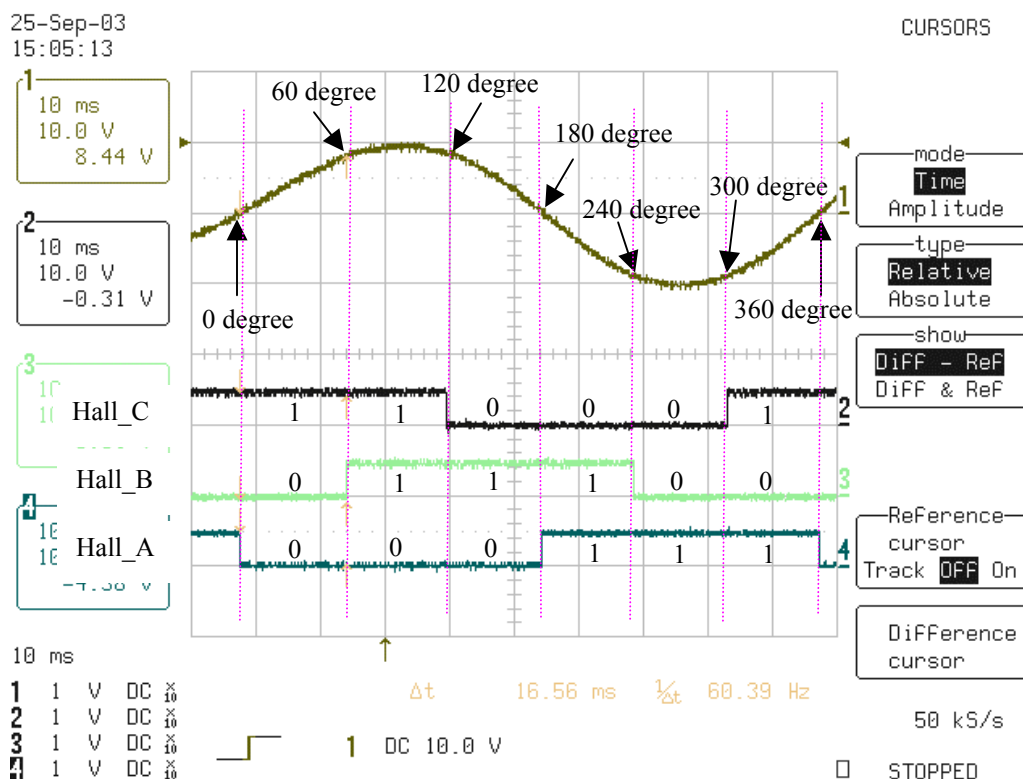

Figure 2. Sample Waveform of U-V counter EMF, Hall C, Hall B and Hall A
- In the example of Figure 2, when angle is 0-60 degree, Hall CBA is 100. Type the mid angle, which is 30 degree for this example, to 'Mid Angle when Hall CBA is 100' field. Fill out the rest fields.